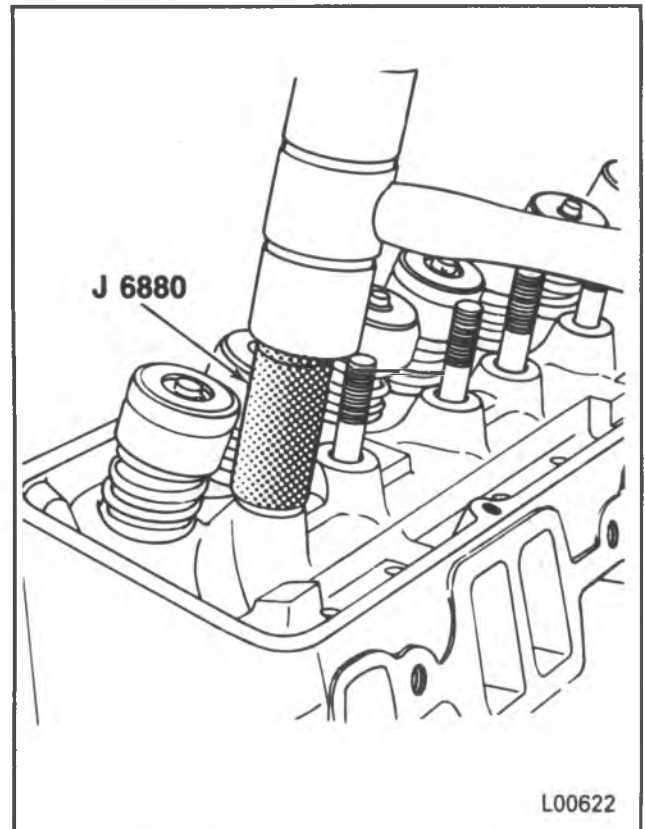

Figure 13 — Installing the Rocker Arm Stud
1. Rocker arm stud. Use J 6880 (figure 13). Stud is installed to proper depth when the tool bottoms on the cylinder head.